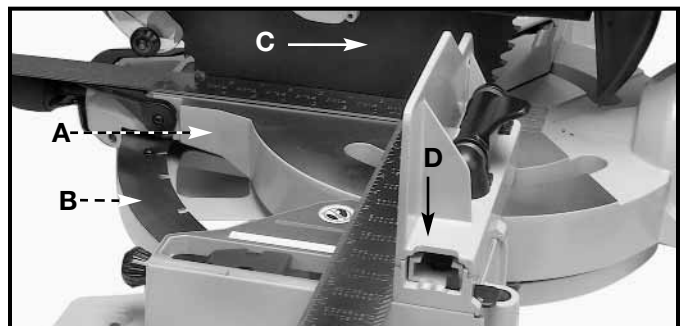

Fig. 16A
2. Rotate the movable table (A) Fig. 16A so that the blade (C) is 90° to the right fence.
3. Adjust the front miter scale (B) Fig. 16A so that the 0° notch is engaged.